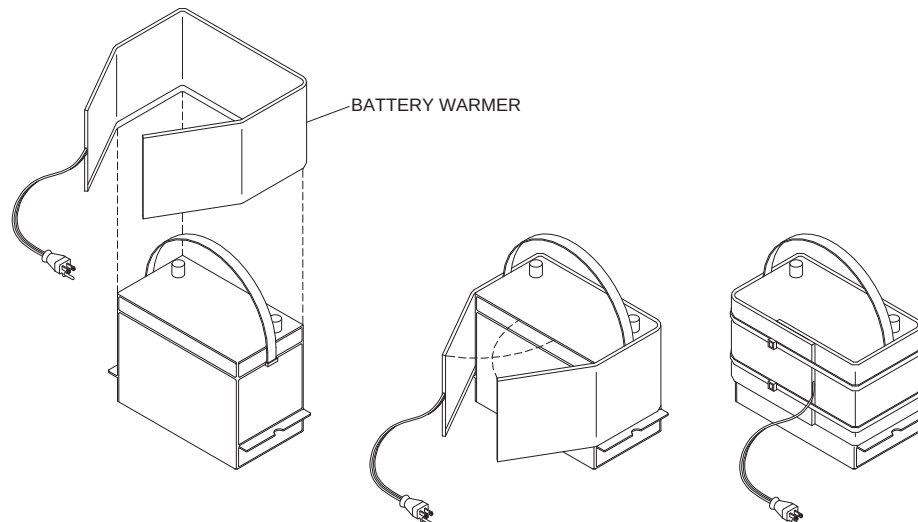

Figure 1. Battery Warmer Installation
8. Wrap the battery warmer (Item 1, Figure 1) around the battery and fasten in place with the provided wire ties.
- Note: Do not wrap battery warmer below battery side tabs (See Figure 1).**